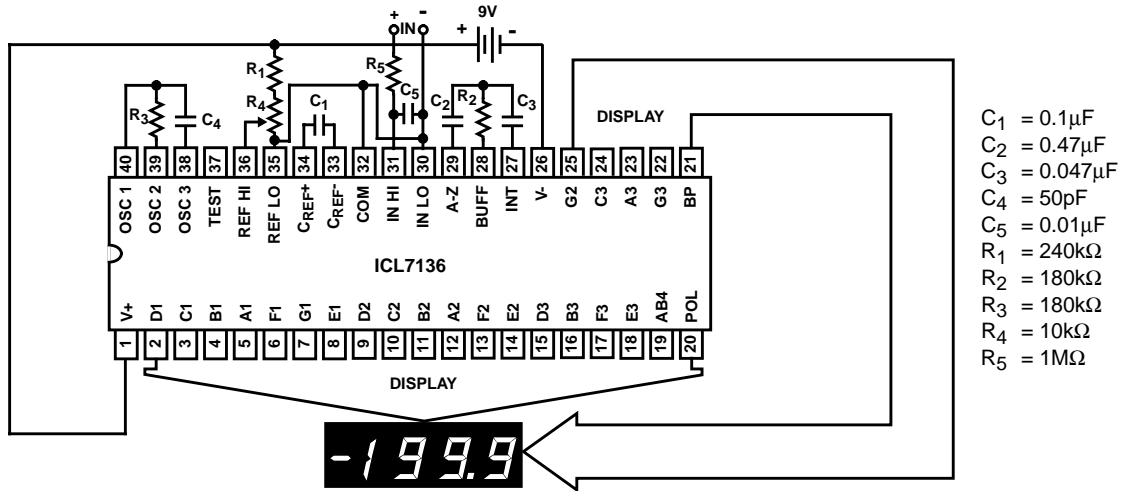
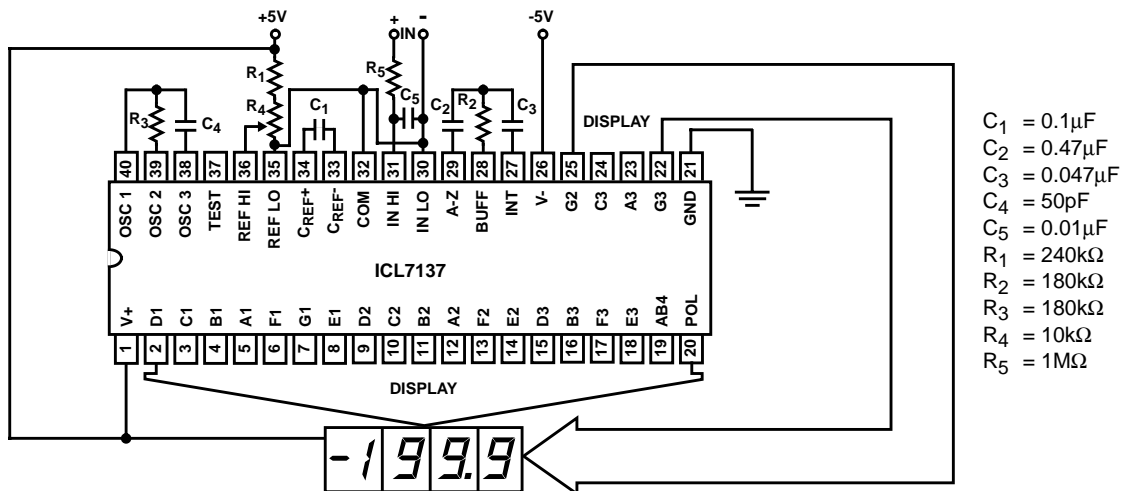

FIGURE 1. ICL7136 TEST CIRCUIT AND TYPICAL APPLICATION WITH LCD DISPLAY COMPONENTS SELECTED FOR 200mV FULL SCALE
FIGURE 2. ICL7137 TEST CIRCUIT AND TYPICAL APPLICATION WITH LED DISPLAY COMPONENTS SELECTED FOR 200mV FULL SCALE
- Unless otherwise noted, specifications apply to both the ICL7136 and ICL7137 at  $T_A = 25^\circ\text{C}$ ,  $f_{\text{CLOCK}} = 48\text{kHz}$ . ICL7136 is tested in the circuit of Figure 1. ICL7137 is tested in the circuit of Figure 2.